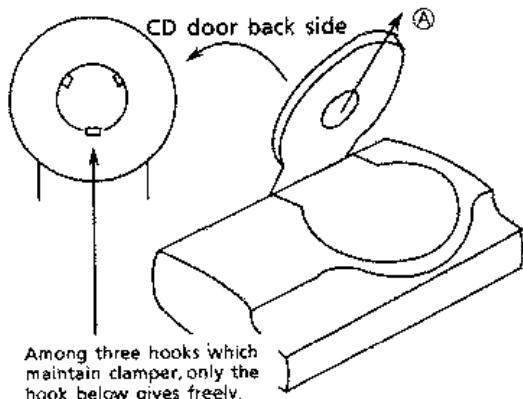

Fig.6
- The clamp is drawn in the direction of A as shown in figure 6 and the clamp removes from the lower side. (Power is somewhat necessary.)